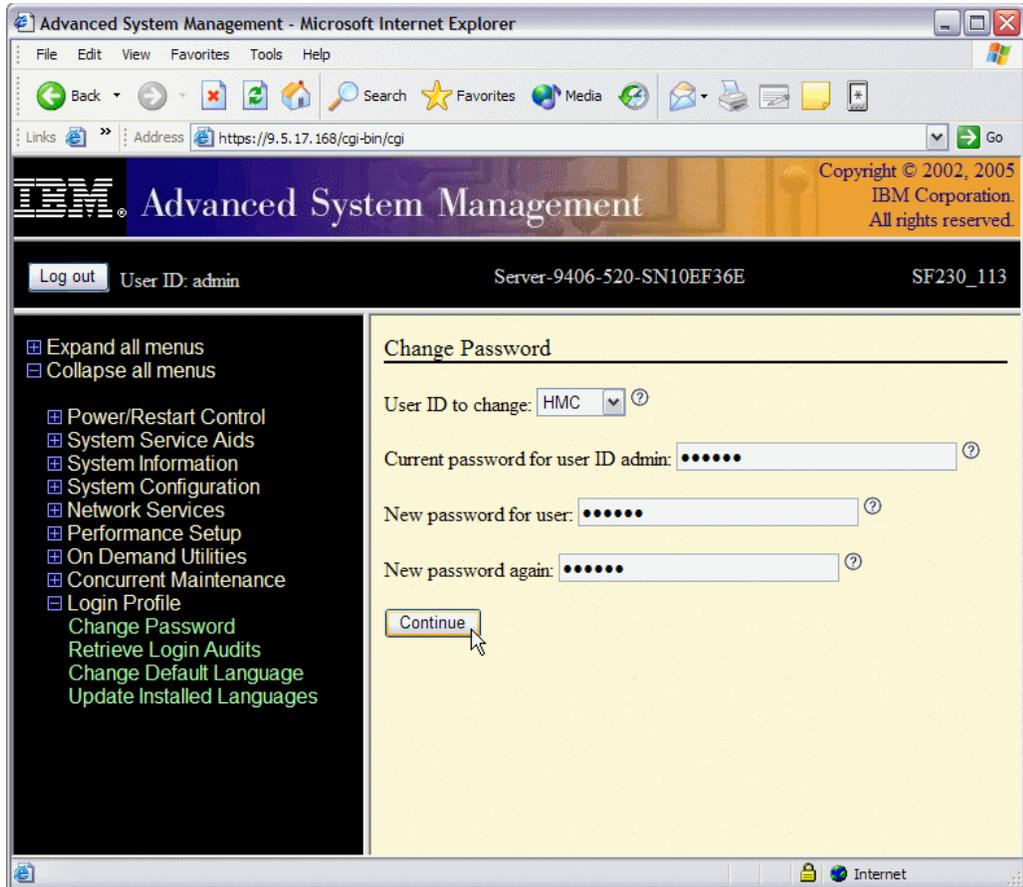

Figure 15-5 Enter password for admin and HMC
4. Enter the admin current password, insert the new password for the HMC Access user, and re-enter the new password as shown in Figure 15-5.